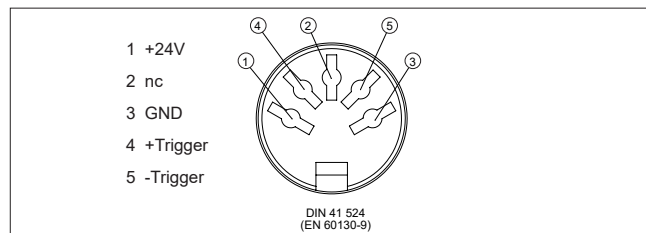

Fig. 3: Assignment of the connection socket
1. Plug the trigger plug into input socket INPUT (B).
3. Assign the connection socket as per fig. 3.